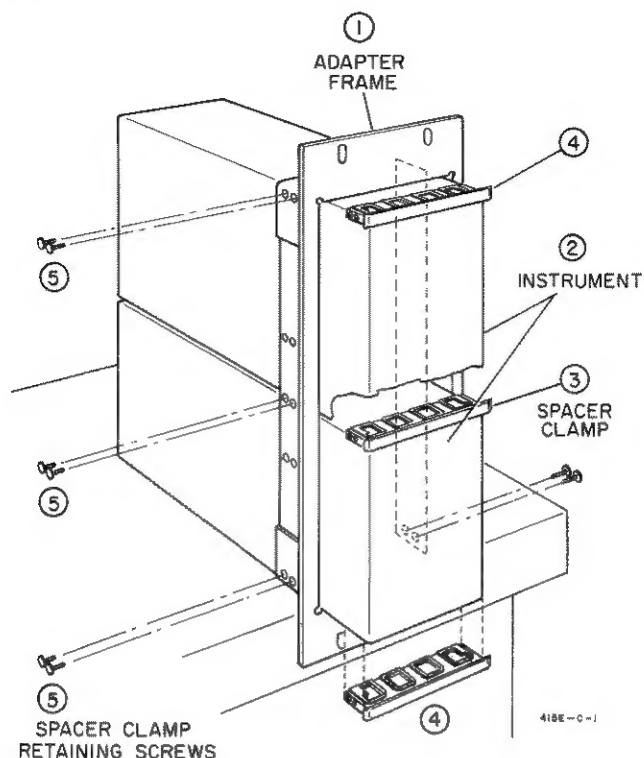

Figure 2-4. Two Half Modules in Rack Adapter
- a. Place the adapter frame on edge of bench as shown in step 1, Figure 2-4.
- b. Stack the sub-modular units in the frame as shown in step 2, Figure 2-4. Place the spacer clamps between instruments as shown in step 3, Figure 2-4.
- c. Place spacer clamps on the two end instruments (see step 4, Figure 2-4) and push the combination into the frame.